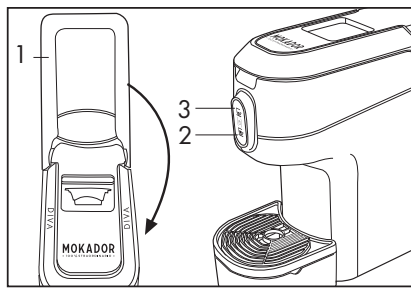

Fig. 8
**Before inserting the capsule, slowly and completely lift the control lever (1) located on the top of the machine to eject the old capsule. For correct hygiene and to maintain high product quality it is advisable to eject the capsule immediately after dispensing.**
- Completely close the lever (1), press a dispensing button (2-3) depending on the according to taste, and press it again to stop dispensing when the desired quantity of coffee or beverage is reached (**Fig. 8**). In case of difficulty in closing the lever, completely open it and close it again.
- To prepare a long coffee (American style) press the dispensing symbol (2) and, after having prepared the espresso coffee and ejected the empty capsule, dispense the desired amount of hot water.
- To extract the capsule, slowly lift the lever (1). If the capsule is not ejected, repeat the operation or press the dispensing symbol (2) and lift the lever (1) at the same time.